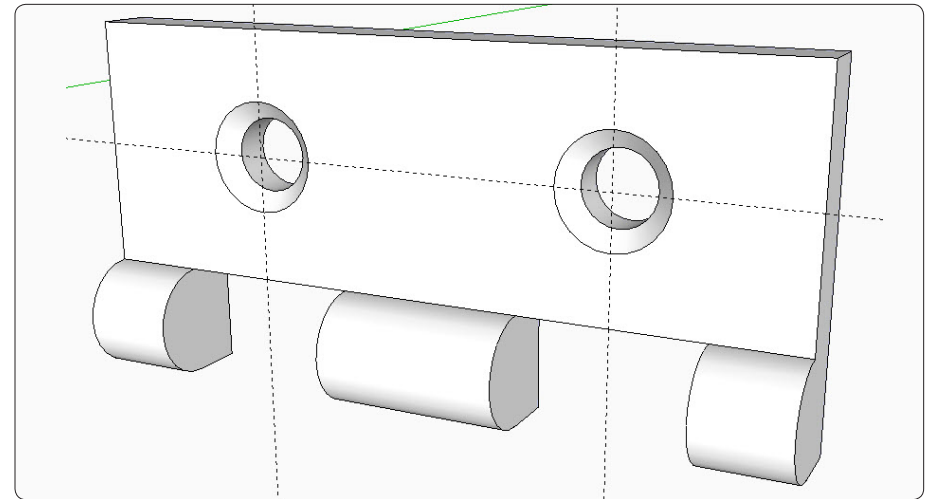

Figure 110. Make screw holes and give them a bevel.
Step 8 Make the screw holes. Place guide lines to find the centers of the holes. Use the Circle Tool to place an 1/8-in.-diameter circle at each center point. Use the Push/Pull Tool to push the circle through for a hole. Place a 3/16-in.-diameter circle over the center point, so it's concentric with the hole. Select the inner circle, use the Move/Copy Tool to push it toward the back of the leaf to create the bevel (Figure 110).